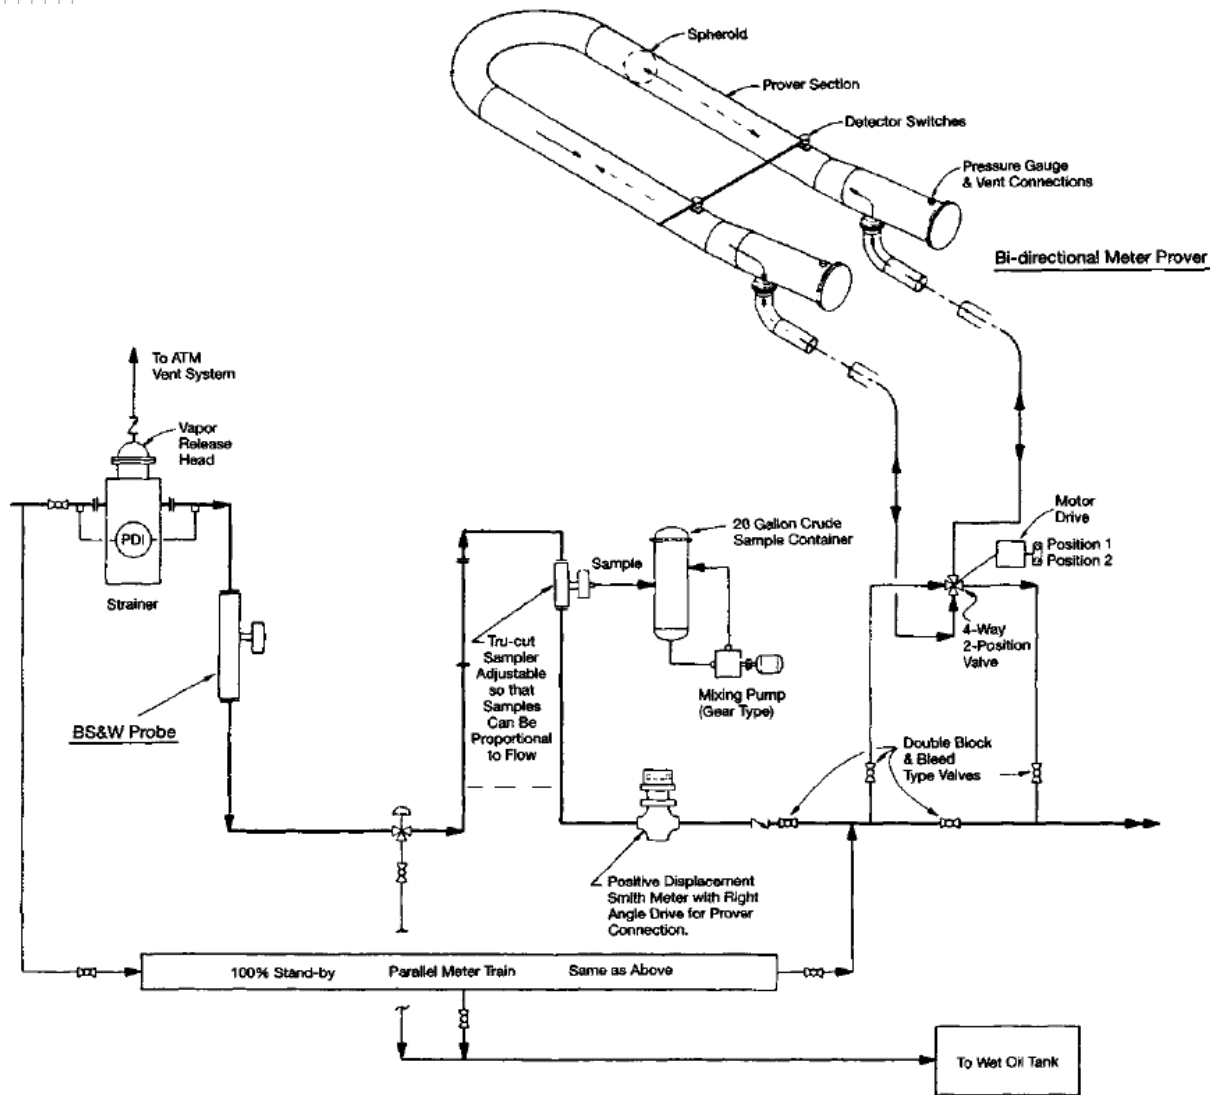

Figure 2-12. Typical LACT unit schematic.
- On large installations a meter prover such as that shown in Figure 2-12 is included as a permanent part of the LACT skid or is brought to the location when a meter must be proven.